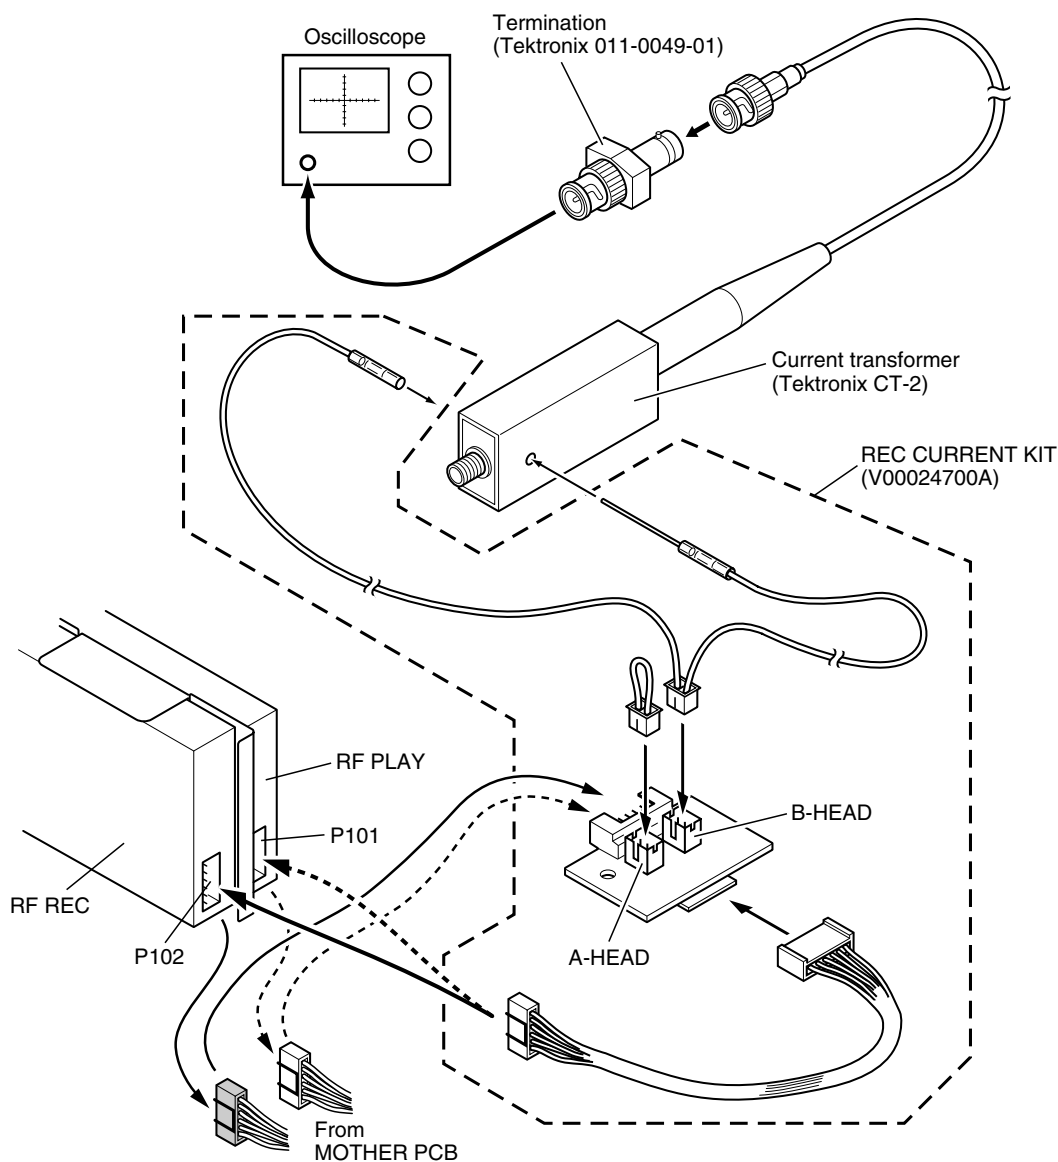

Fig. 5-5
- 2) As shown in the Fig. 5-5, connect the REC CURRENT KIT (P/N:V00024700A) between P10 on the MOTHER PCB and P102 on the RF REC PCB.
- 2) 図5-5の様に REC CURRENT KIT (品番V00024700A) をMOTHER PCBのP10とRF REC PCBの P102間に接続する。
The state in which shorting pins A and B inserted as shown in Fig. 5-5 is one in which current flowing through the B-HEAD is to be measured. The state with shorting pins A and B reversed is one in which current flowing through the A-HEAD is to be measured. For a reference waveform using the oscilloscope, refer to Photo-4.
注) 図5-5の様に、ショートピンA, Bを差した状態がB-HEADの電流値測定の状態です。ショートピンA, Bの差す位置を逆にした状態が、A-HEADの電流値測定の状態です。尚、オシロスコープの参考波形として、写真-4を参照してください。